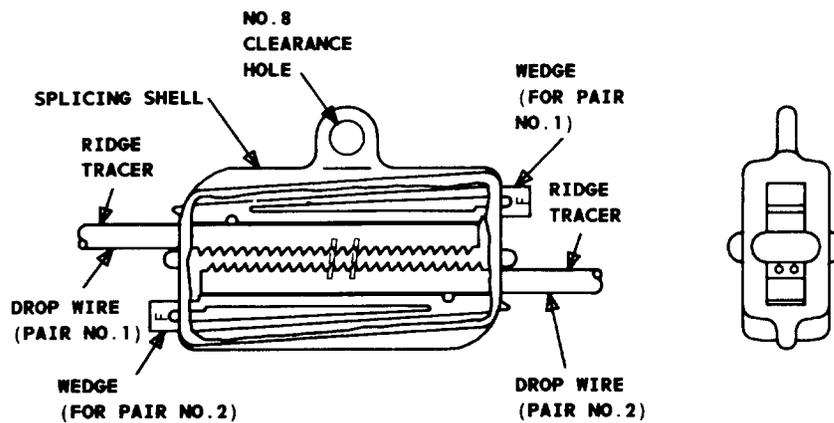

Fig. 2—B Drop Wire Splice—Cutaway
3.02 The B drop wire splice is equipped with a No. 8 clearance hole (Fig. 2) which permits fastening to a pole or structure in nontension applications.
3.03 The plastic splicing shell (Fig. 2) has a serrated center partition with integrally molded terminals which provide the electrical connections.